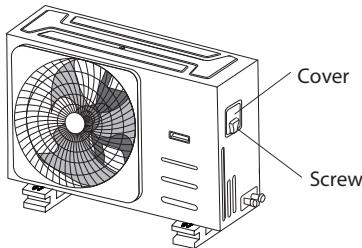

Fig. 7.1
2. Remove the electric cover of the outdoor unit. If there is no cover on the outdoor unit, take off the bolts from the maintenance board and remove the protection board. (See Fig. 7.1 and 7.2).